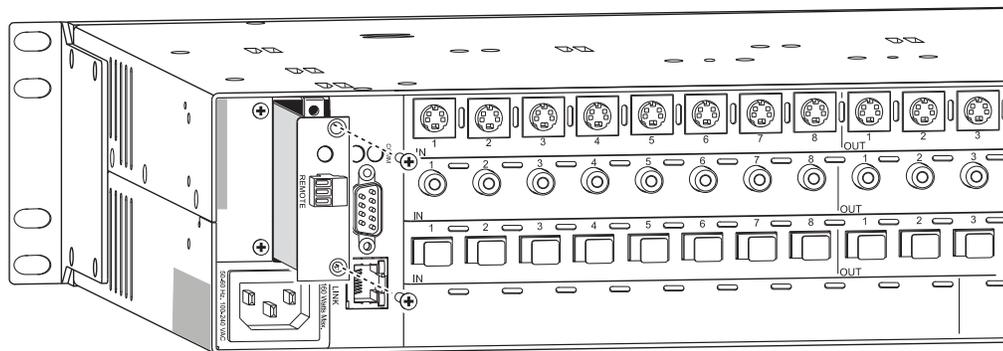

FIG. 75 Insert the XNNet board into expansion slot and replace screws
3. Insert the XNNet board (the “Remote” label *must* be to the left; see FIG. 75) into the empty expansion slot, aligning the board between the upper and lower guides inside the slot. Press firmly until the board snaps into place.